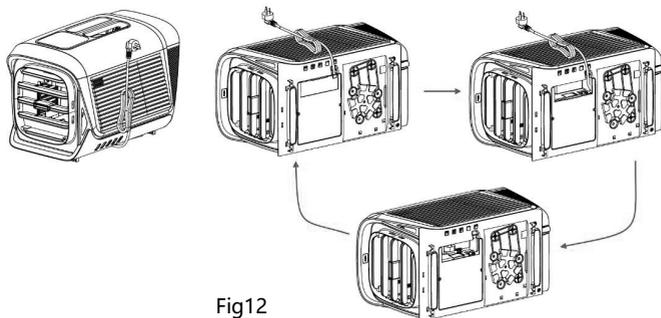

Fig12
4.2. The power cord is automatically stored, and the power cord plug is placed in the storage box of the machine; (optional power cord can be automatically stored ;as shown below: Fig12);